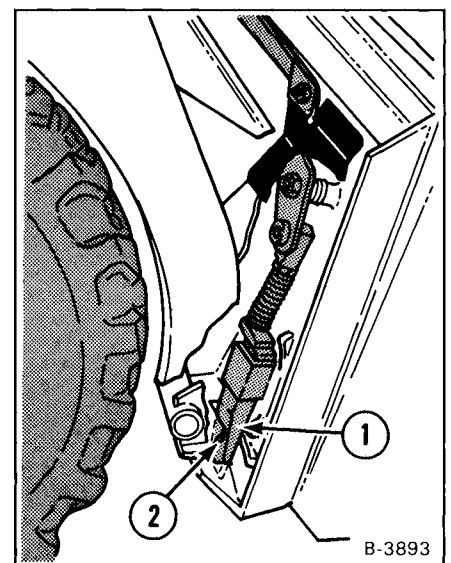

Fig. 32 Wedges in Locked Position
5. The wedges (Fig. 32, Item 1) must extend at least 1/2" (12,7 mm) through the holes (Item 2) in the attachment.